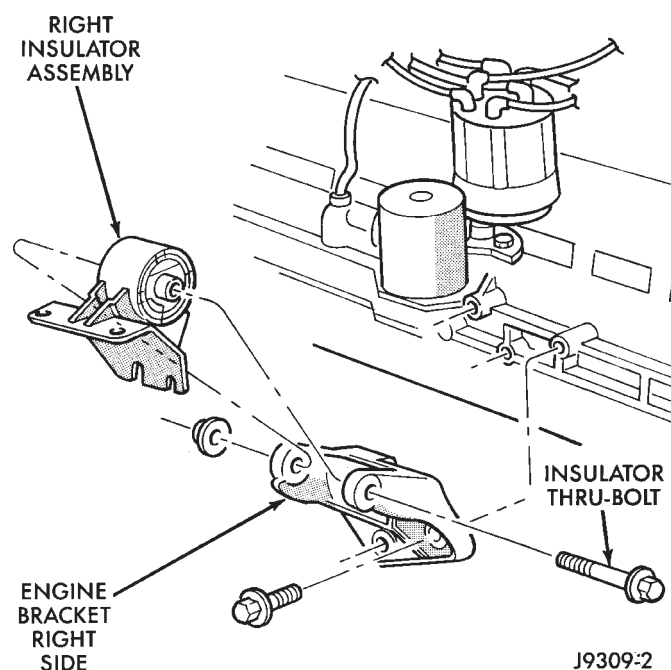
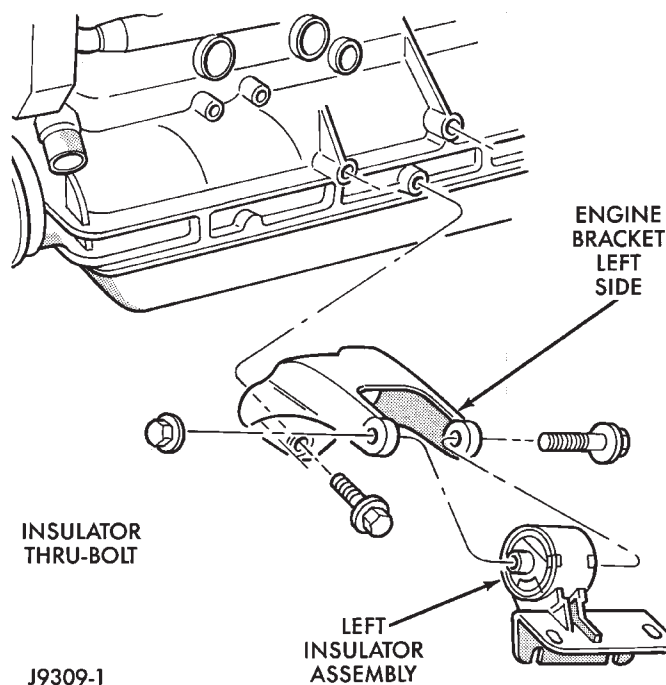

Fig. 22 Front Engine Mount—Right Side
Fig. 23 Front Engine Mount—Left Side
- (1) Disconnect the negative cable from the battery.
- (2) Support the engine.
- (3) Raise the vehicle.
- (4) Remove the insulator assembly-to-lower front sill bolts (Fig. 22) (Fig. 23).
- (5) Raise the engine slightly.
- (6) Remove the thru-bolt nut and thru-bolt (Fig. 22) (Fig. 23). Remove the insulator.
- (7) If required, remove the engine bracket from the block (Fig. 22) (Fig. 23).
- (1) If removed, install the engine bracket to the block (Fig. 22) (Fig. 23). Tighten the bolts to 61 N·m (45 ft. lbs.) torque.
- (2) Install the insulator assembly to the lower front sill. Tighten the bolts to 65 N·m (48 ft. lbs.) torque.
- (3) With the engine insulator assembly and engine bracket in position, install the thru-bolt and nut (Fig. 22) (Fig. 23). Tighten the thru-bolt nut to 121 N·m (89 ft. lbs.) torque.
- (4) Lower the vehicle.
- (5) Remove the engine support.
- (6) Connect the negative cable to the battery.